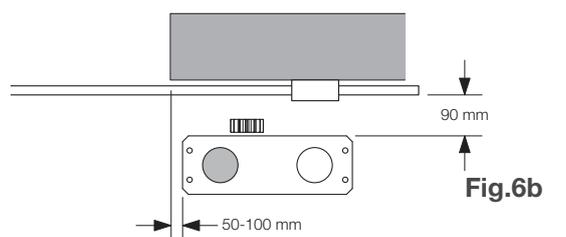

Fig.6b
- Fig. 6b installation with motor on the right